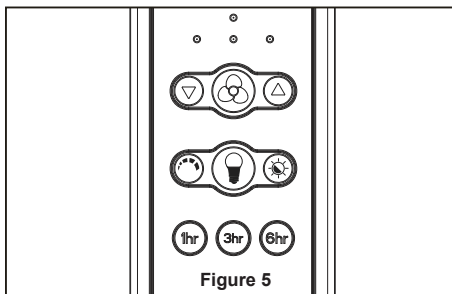

Figure 5
- ☐ 3. Using the outlet box screws provided with the outlet box, securely attach the ceiling bracket assembly to the outlet box as shown. (Figure 5)
- ☐ 5. Remote functions: (Figure 5)